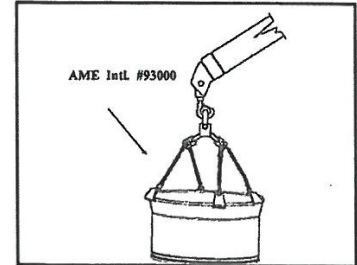

Figure 9
1. Carefully lift the bead seat band off the rim. Use a hoist, pry bars, and the AME INTL. Flange Ring Puller Model 93000. (See Fig. 9)